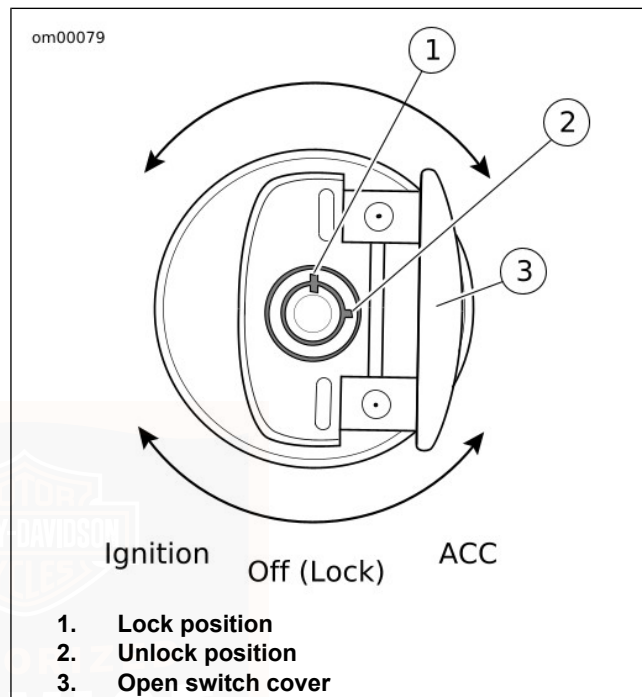

Figure 19. Ignition/Headlamp Key Switch: Softail Models
1. See Figure 19. Verify switch is in LOCK position.
2. See Figure 19. Turn ignition/headlamp key switch to ON and push the START switch to operate starter motor.
2. See Figure 19. Turn the ignition key to the OFF position to turn the ignition power completely OFF.